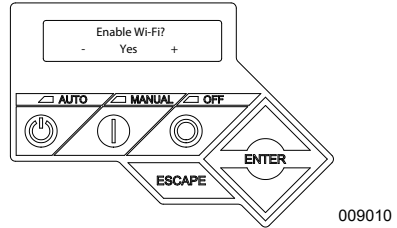

Figure 4-2. Enable/Disable Wi-Fi
2. See Figure 4-2. Use arrow keys to toggle between "Yes" and "No." Select "No" and press ENTER.